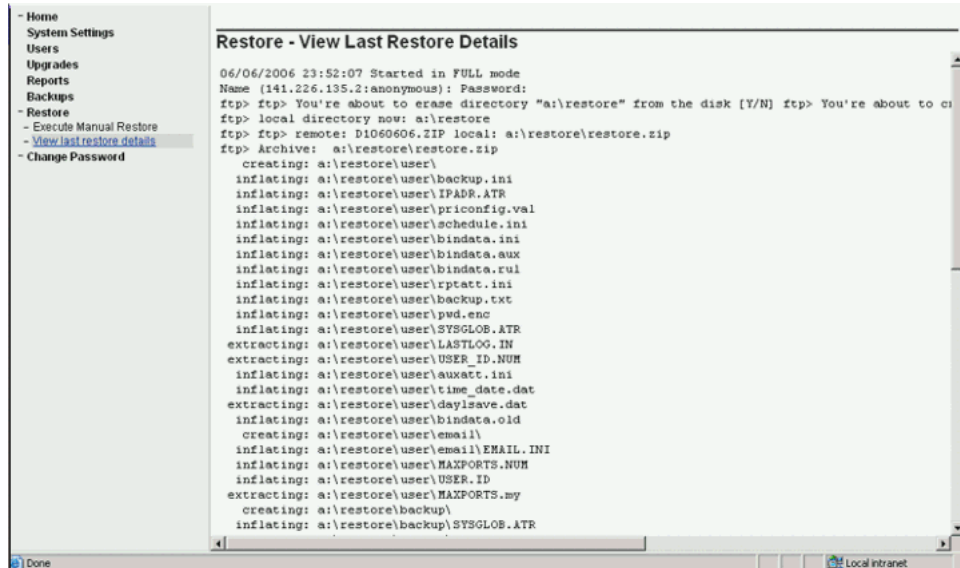

Figure 46: View Last Restore Details window
5. You can view the details of the restore as shown in Figure 46: View Last Restore Details window on page 143.
6. You can view the details of the restore as shown in Figure 46: View Last Restore Details window on page 143.